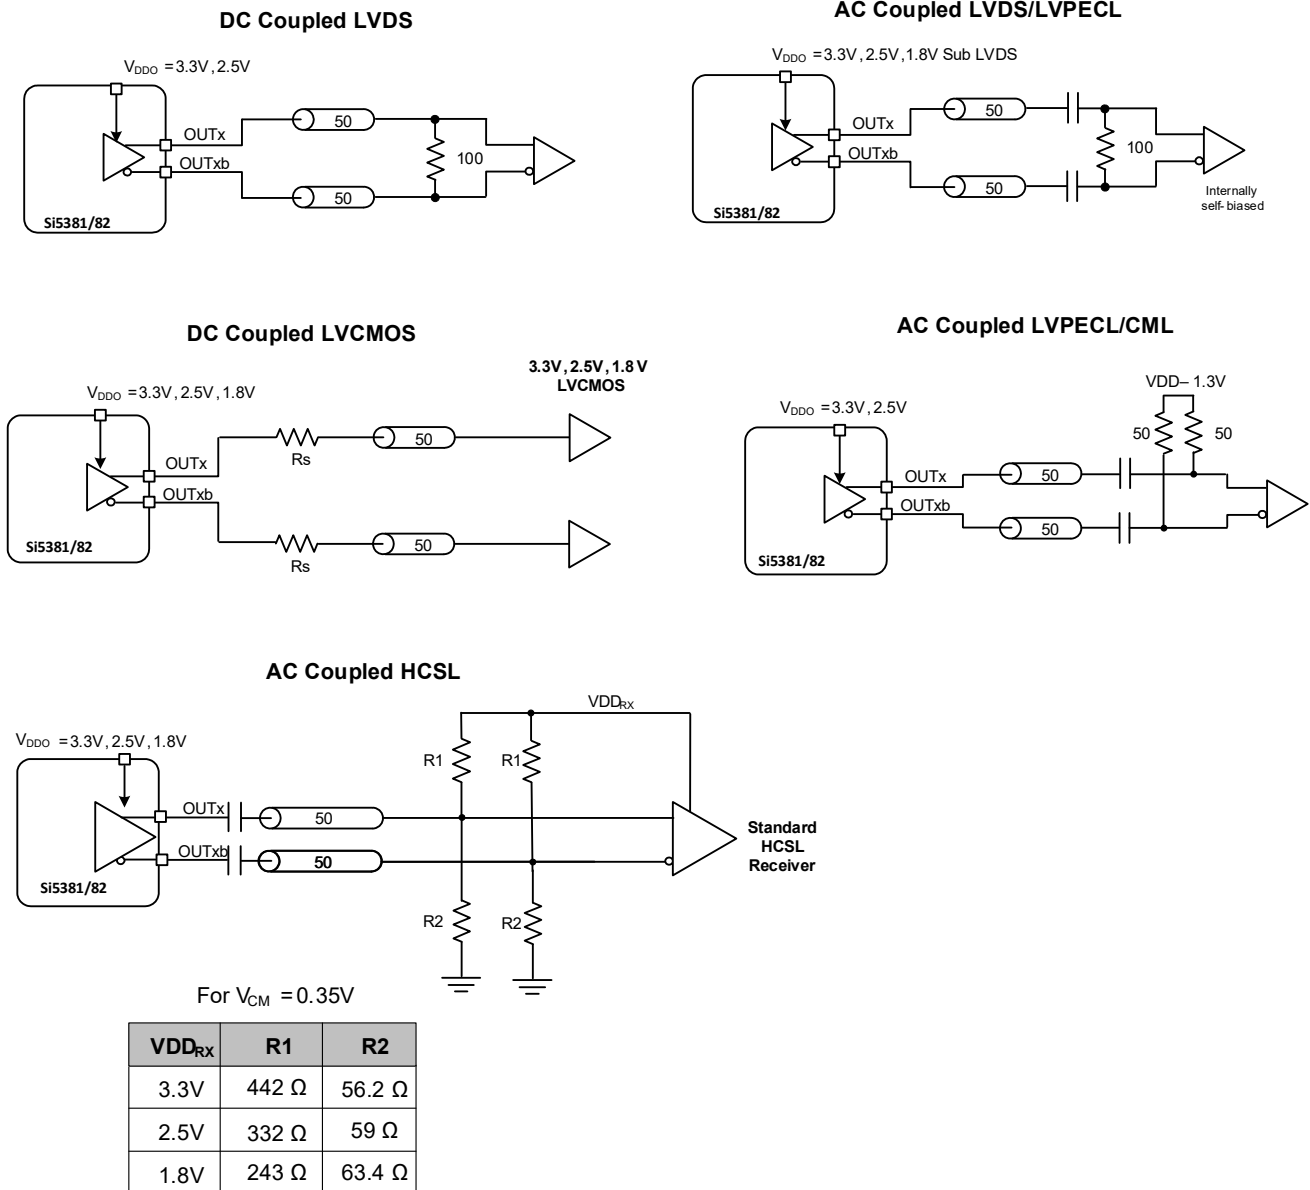

Figure 19. Supported Differential Output Terminations
The differential output drivers support both ac and dc-coupled terminations as shown in Figure 19.
2. Creates HCSL compatible signals, see HCSL receiver biasing network in Figure 19, “Supported Differential Output Terminations,” on page 45.